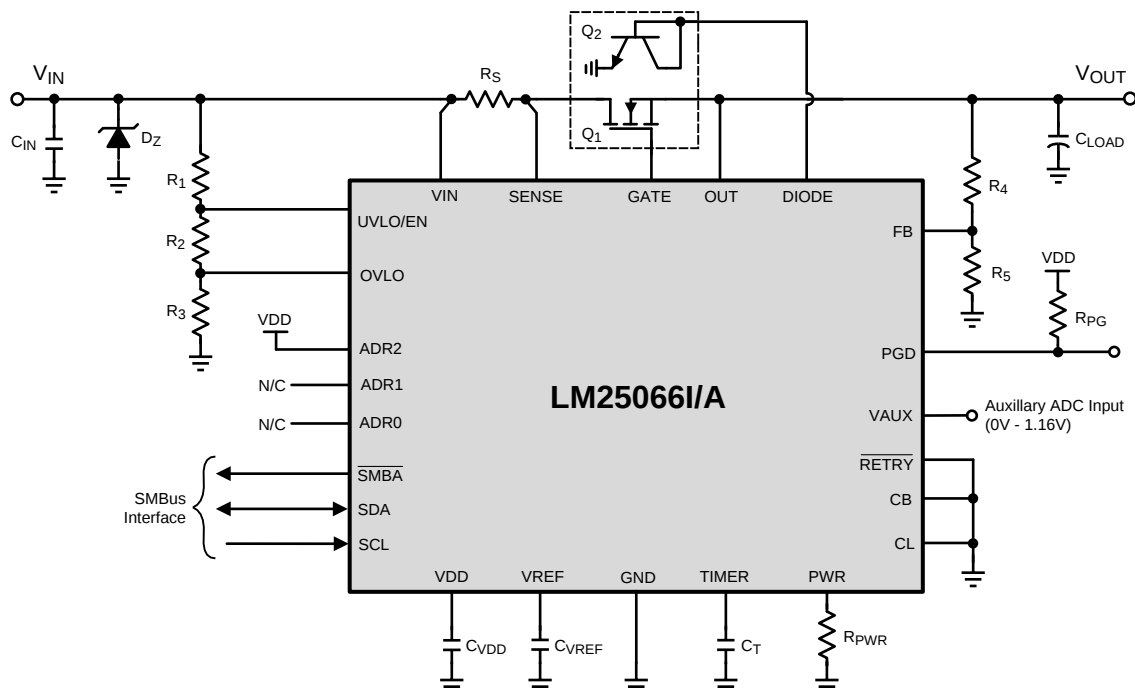
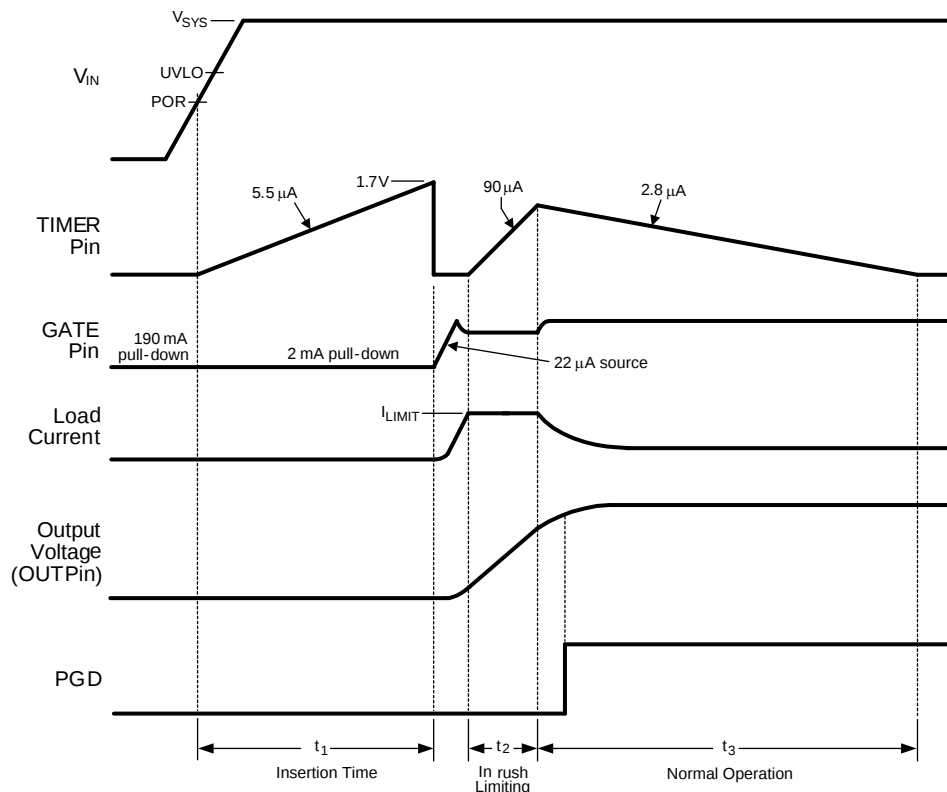

Figure 31. Typical Application Circuit
Figure 32. Power Up Sequence (Current Limit Only)
The V_{IN} operating range of the LM25066I/A is +2.9V to +17V, with transient capability to +24V. Referring to Figure 31 and Figure 32, as the voltage at V_{IN} initially increases, the external N-channel MOSFET (Q_1) is held off by an internal 190 mA pulldown current at the GATE pin. The strong pulldown current at the GATE pin prevents an inadvertent turn-on as the MOSFET’s gate-to-drain (Miller) capacitance is charged. Additionally, the TIMER pin is initially held at ground. When the V_{IN} voltage reaches the POR threshold, the insertion time begins. During the insertion time, the capacitor at the TIMER pin (C_T) is charged by a 5.5 μ A current source and Q_1 is held off by a 2 mA pulldown current at the GATE pin regardless of the input voltage. The insertion time delay allows ringing and transients at V_{IN} to settle before Q_1 is enabled. The insertion time ends when the TIMER pin
As the voltage at the OUT pin increases, the LM25066I/A monitors the drain current and power dissipation of MOSFET Q_1 . Inrush current limiting and/or power limiting circuits actively control the current delivered to the load. During the inrush limiting interval (t_2 in Figure 32), an internal 90 μ A fault timer current source charges C_T . If Q_1 's power dissipation and the input current reduce below their respective limiting thresholds before the TIMER pin reaches 1.7V, the 90 μ A current source is switched off and C_T is discharged by the internal 2.8 μ A current sink (t_3 in Figure 32). The PGD pin switches high when FB exceeds its rising threshold of 1.167V.
A charge pump provides the voltage at the GATE pin to enhance the N-Channel MOSFET's gate. During normal operating conditions (t_3 in Figure 32) the gate of Q_1 is held charged by an internal 22 μA current source. The voltage at the GATE pin (with respect to ground) is limited by an internal 18.8 V zener diode. See the graph "GATE Pin Voltage" shown previously. Since the gate-to-source voltage applied to Q_1 could be as high as 18.8 V during various conditions, a zener diode with the appropriate voltage rating must be added between the GATE and OUT pins if the maximum V_{GS} rating of the selected MOSFET is less than 18.8 V. The external zener diode must have a forward current rating of at least 190 mA. When the system voltage is initially applied, the GATE pin is held low by a 190 mA pulldown current. This helps prevent an inadvertent turn-on of the MOSFET through its drain-gate capacitance as the applied system voltage increases.
During the insertion time (t_1 in Figure 32) the GATE pin is held low by a 2 mA pulldown current. This maintains Q_1 in the off-state until the end of t_1 , regardless of the voltage at VIN or UVLO. Following the insertion time (t_2 in Figure 32), the gate voltage of Q_1 is controlled to keep the current or power dissipation level from exceeding the programmed levels. While in the current or power limiting mode, the TIMER pin capacitor is charging. If the current and power limiting cease before the TIMER pin reaches 1.7V, the TIMER pin capacitor then discharges, and the circuit begins normal operation. If the inrush limiting condition persists such that the TIMER pin reached 1.7V during t_2 , the GATE pin is then pulled low by the 190 mA pulldown current. The GATE pin is then held low until either a power up sequence is initiated (RETRY pin to VDD), or an automatic retry is attempted (RETRY pin to GROUND). See Fault Timer and Restart. If the system input voltage falls below the UVLO threshold or rises above the OVLO threshold, the GATE pin is pulled low by the 2 mA pulldown current to switch off Q_1 .
When the current limit or power limit threshold is reached during turn-on, or as a result of a fault condition, the gate-to-source voltage of Q_1 is controlled to regulate the load current and power dissipation in Q_1 . When either limiting function is active, a 90 μ A fault timer current source charges the external capacitor (C_T) at the TIMER pin as shown in Figure 32 (Fault Timeout Period). If the fault condition subsides during the Fault Timeout Period before the TIMER pin reaches 1.7V, the LM25066I/A returns to the normal operating mode and C_T is discharged by the 1.9 mA current sink. If the TIMER pin reaches 1.7V during the Fault Timeout Period, Q_1 is switched off by a 2 mA pulldown current at the GATE pin. The subsequent restart procedure then depends on the selected retry configuration.
A) Insertion Delay - Upon applying the system voltage (V_{SYS}) to the circuit, the external MOSFET (Q_1) is held off during the insertion time (t_1 in Figure 32) to allow ringing and transients at V_{SYS} to settle. Since each backplane's response to a circuit card plug-in is unique, the worst case settling time must be determined for each application. The insertion time starts when VIN reaches the POR threshold, at which time the internal 5.5 μA current source charges C_T from 0V to 1.7V. The required capacitor value is calculated from: